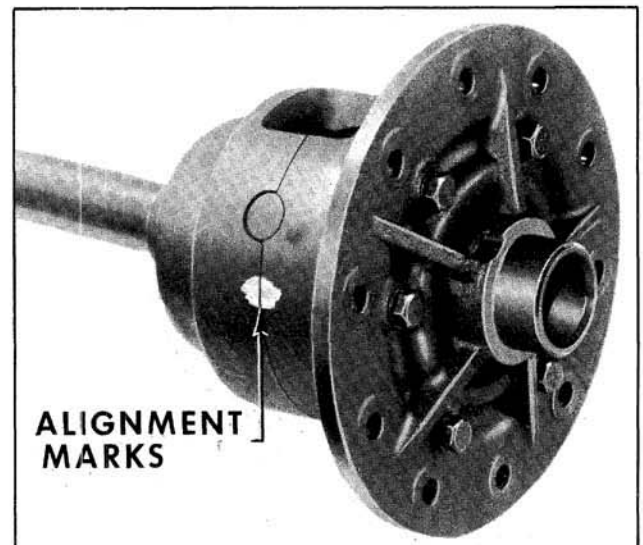

Fig. 10-40 Alignment Marks
4. Mark flange half of case and cover half with a center punch or paint to provide alignment for reassembly. (Fig. 10-40)